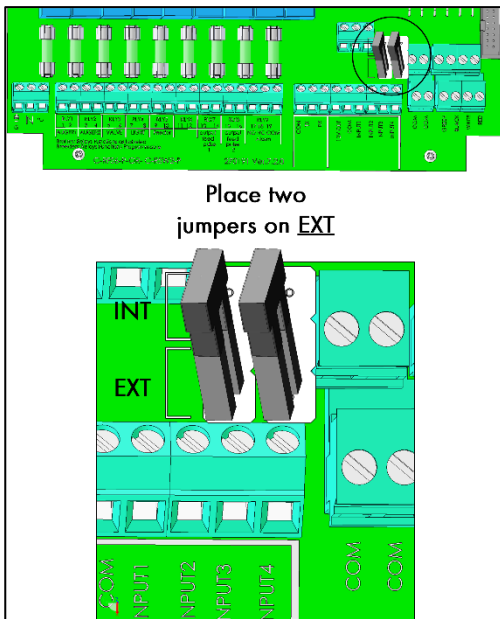

Figure 13: RSW-2 Jumpers set to External Power Supply)
- In both cases, jumpers must be set correctly (Figure 11 and Figure 13).